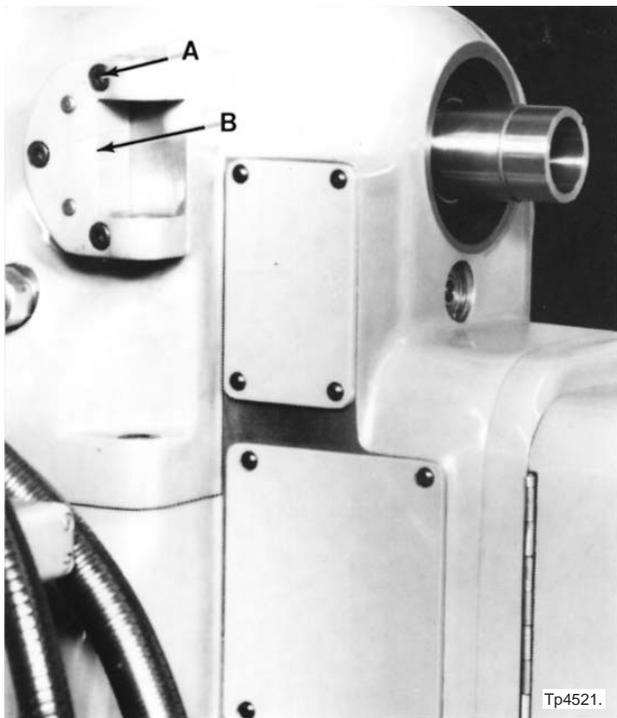

Figure 4.65 - Collet Closer Mounting Bracket Removal
2. Remove three screws "A", Figure 4.65, and collet closer mounting bracket "B".